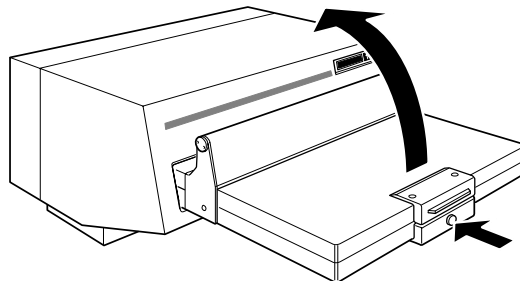

Figure 9 - Opening the floptop magazine
1. Open the magazine by pressing the button (fig. 9) in the middle of the magazine (opening the cover).